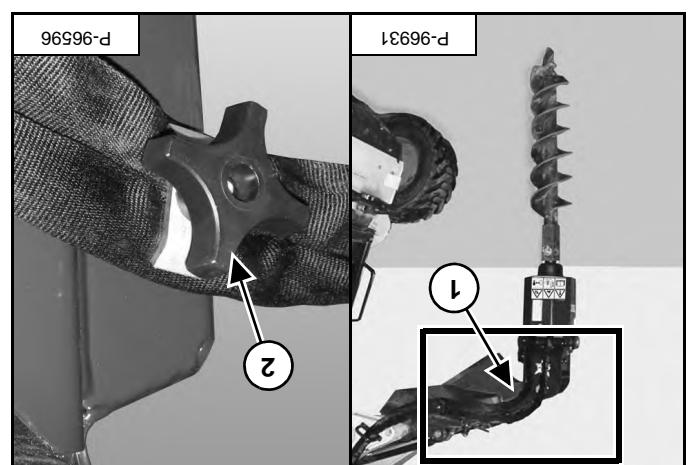

Figure 49
Raise the lift arms and place the auger in the operating position [Figure 49].
[Figure 49] and clamp against the hoses.
loosen knob (item 2) [Figure 49] and clamp.
Visually inspect the hydraulic hoses (item 1) [Figure 49]
Raise the lift arms and tilt the Bob-Tach forward until the auger is not contacting the rubber stop on the transport bar. In this position, the auger should be free floating in the mounting frame [Figure 49].